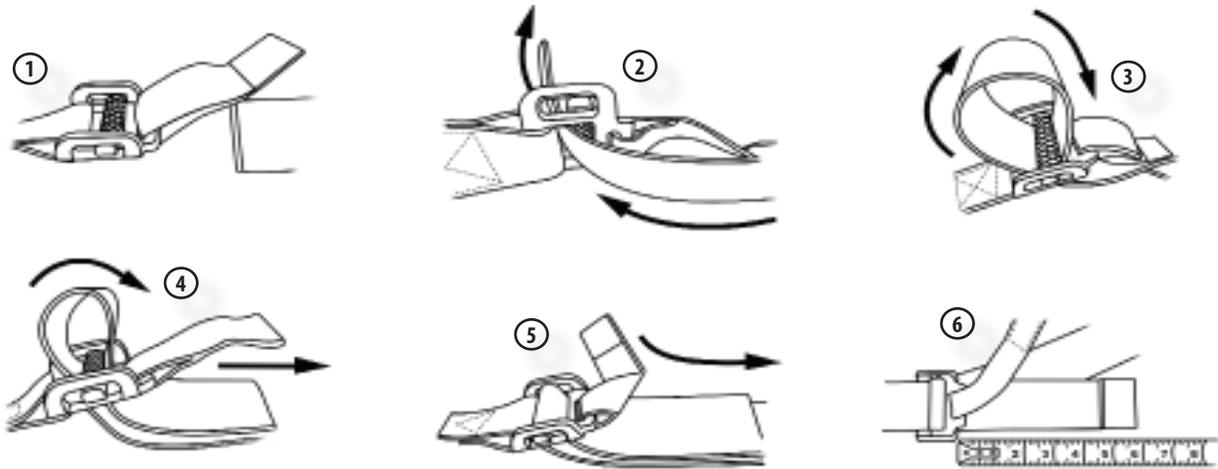

Figure 11
STEP 2: Secure the tree belt by inserting the tag (free-end) end through the slot in the buckle closest to opposite end of the tree belt, then cross over the sliding mechanism and back down through opposite slot. Pull on tree belt to secure and test to make sure sliding mechanism engages, creating secure tree belt placement. Refer to Figure 11 for proper tree belt buckle threading. YOU MUST thread the tree belt buckle as shown in Figure 11. Failure to do so may result in failure of the tree belt.
! WARNING! YOU MUST thread the tree belt buckle as shown in Figure 11. Failure to thread the buckle as shown will result in the belt failing to hold and separation from the tree trunk. Failure to follow these instructions may result in serious injury or death!